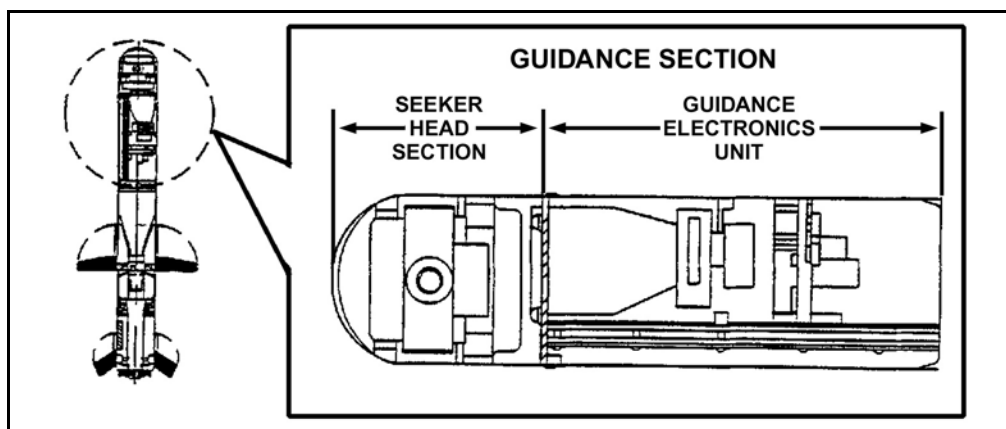

Figure 1-21. Missile guidance section.
The missile consists of the guidance section, the mid-body section, the warhead, the propulsion section, and the control actuator section (Figure 1-21, page 1-14).
a. **Guidance Section.** The guidance section (Figure 1-21, page 1-14) provides target tracking and flight control signals. It is the forward section of the missile and includes the seeker head section and the guidance electronics unit.